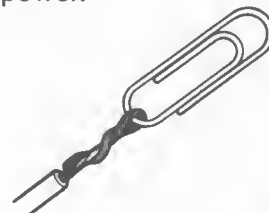

Figure 3
- (1) Get everything ready before you open your bottle or can of beer, to ensure it does not lose any of its 'fizz' before you are ready. This step also ensures there is enough beer left over to make the power cell!
- (2) Take the four lengths of insulated hook-up wire and remove approx. 4cm of insulation from each end. Twists the strands of wire together then wrap them around and around each of the four paper clips (one clip per end of wire!) as shown in fig. 3.
- (3) The nails, coins and paper clips must be very clean to work properly. If the nails are not shiny bright, clean them with some emery cloth or scrape them with an old knife. If the coins are tarnished, clean them with a little toothpaste on a cloth. This cleaning is necessary to ensure good electrical contact with the beer.